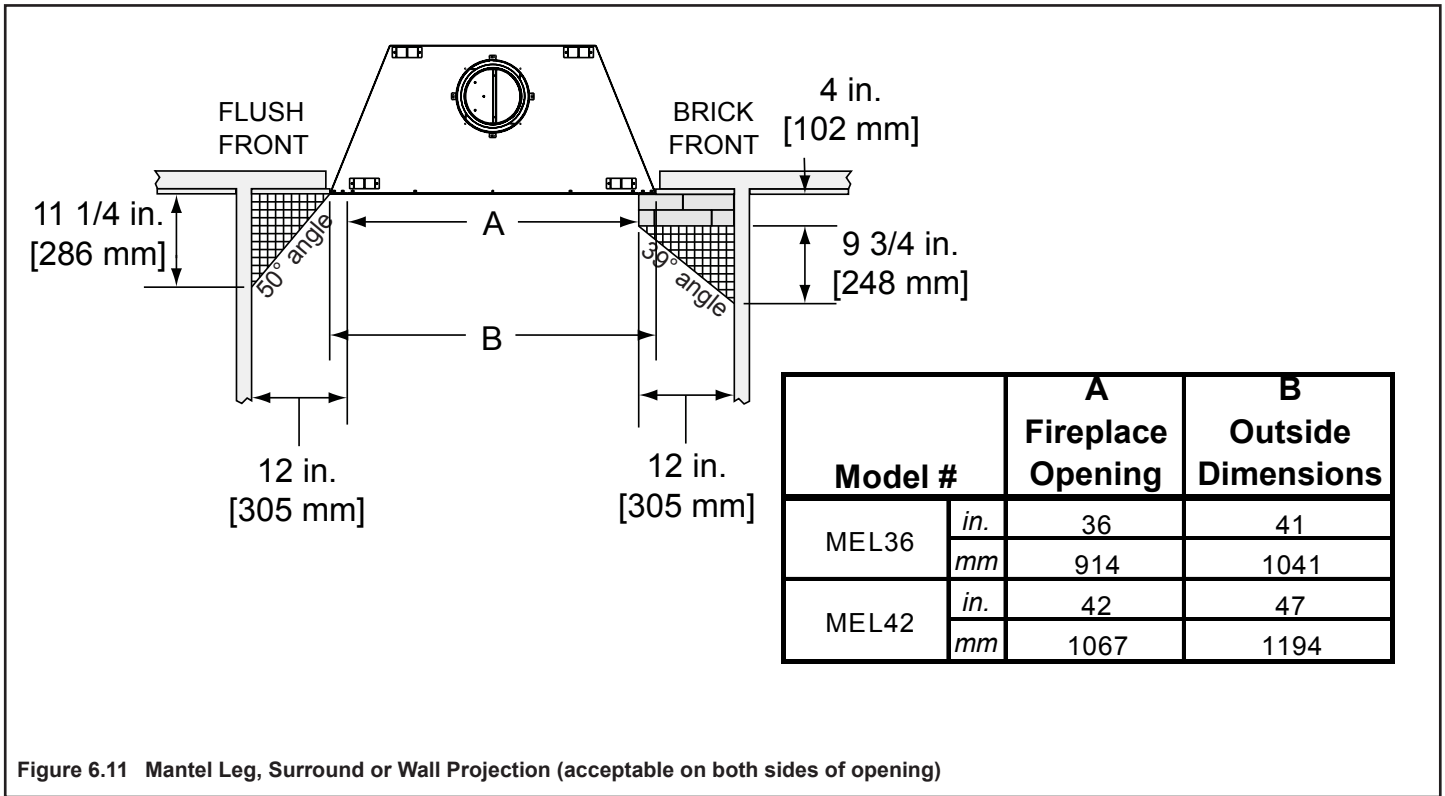

Figure 6.11 Mantel Leg, Surround or Wall Projection (acceptable on both sides of opening)
- Mantle leg, surround, stub wall, whether combustible or non-combustible, may be constructed as shown in Figure 6.11.